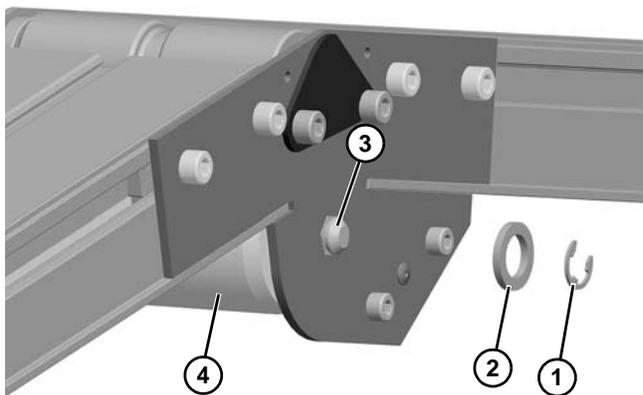

Figure 137
- a. For 2" (44 mm) through 4" (95 mm) wide conveyors, remove E-ring clip (Figure 137, item 1) and washer (Figure 137, item 2) from one side. Remove pulley shaft (Figure 137, item 3) and pulley (Figure 137, item 4).